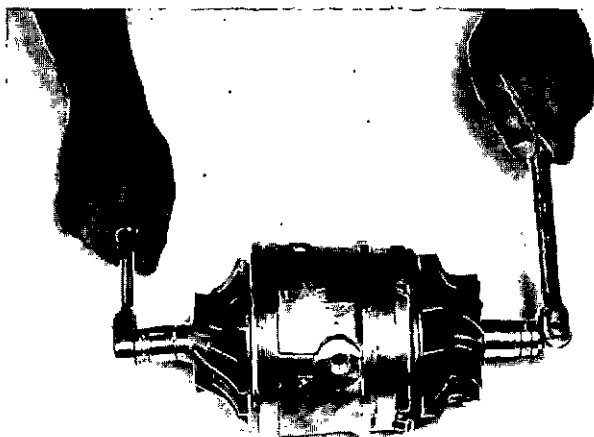

Fig. 4-6, (T465058). Remove the rotor nut from the rotor assembly
7. Remove the rotor nut (14) from the compressor end of the rotor assembly, Fig. 4-6.